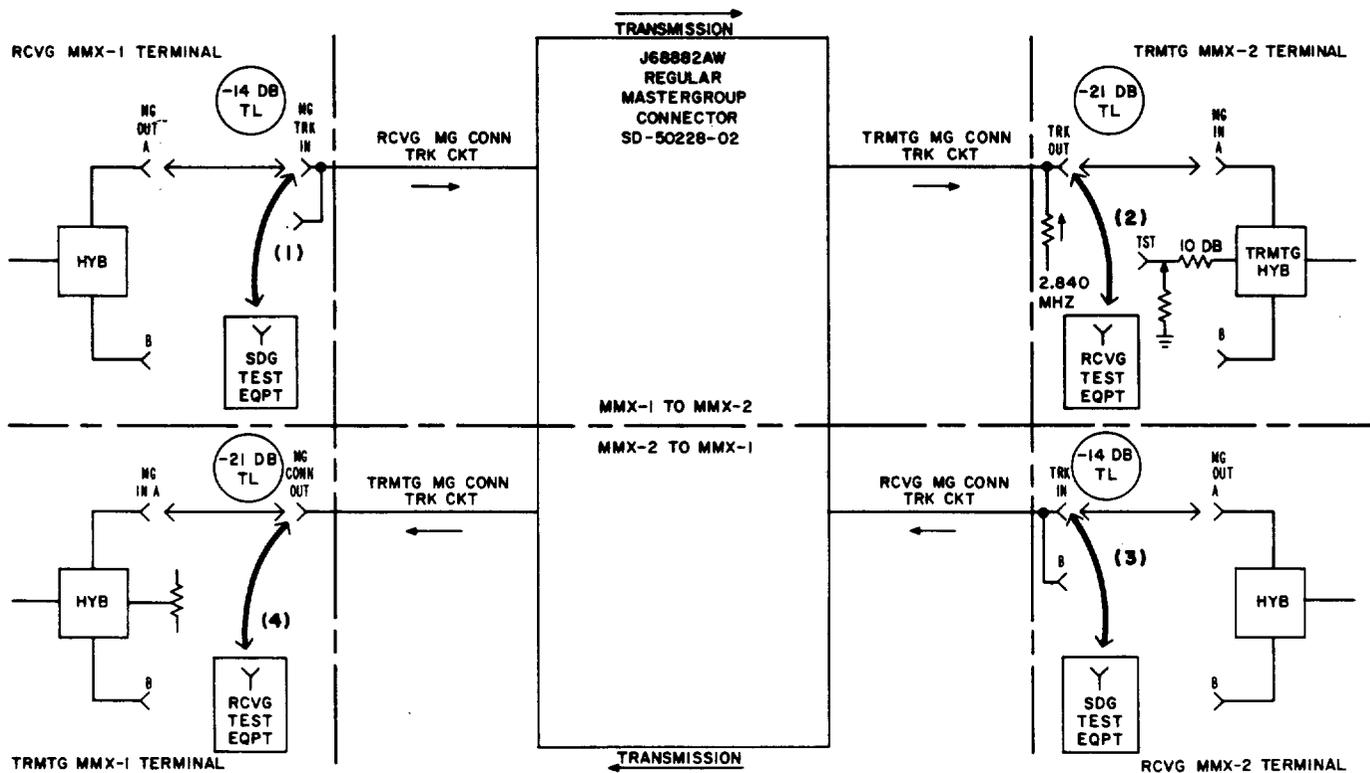

Fig. 2—Regular Mastergroup Connector Test Connections
<ul style="list-style-type: none"> (a) Check that the transmission path to be tested is out of service. (b) Locate the test jacks (Fig. 2) for the transmission path to be tested. (c) Locate the mastergroup connector and the controls in the transmission path to be tested.
1	Apply a 1.8-MHz test signal at -14 dBm to the MG TRK IN (TRK IN) jack in the MMX-1 (MMX-2) receiving bay [patch 1 (3), Fig. 2].
2	Measure the 1.8-MHz power at the TRK OUT (MG CONN OUT) jack in the MMX-2 (MMX-1) transmitting bay [patch 2 (4), Fig. 2].
<p>Note: In case of trouble, continue signal tracing in the mastergroup connector and the trunk circuits. ♦Test procedures for the mastergroup distribution frame are explained in Section 356-005-501.♦</p> <p>Slope Measurements</p> <p>At MMX receiving bay,</p> <p>8 Apply a 0.6-MHz test signal at -14 dBm to the MG TRK IN (TRK IN) jack [patch 1 (3), Fig. 2].</p> <p>At MMX transmitting bay,</p> <p>9 Measure and record the 0.6-MHz power at the TRK OUT (MG CONN OUT) jack [patch 2 (4), Fig. 2].</p> <p>10 Repeat Steps 8 and 9 for a 3.0-MHz test signal.</p> <p>Requirement: The 3.0-MHz signal power shall be within ± 0.4 dB of the 0.6-MHz signal power.</p> <p>11 Proceed to Part C of this chart to check the pilot elimination filter if the requirement is met. Otherwise, proceed to Part B of this chart to adjust the appropriate 210B cable equalizer in the mastergroup connector.</p> <p>B. Cable Equalizer Adjustments</p> <p>At mastergroup connector,</p> <p>Caution: Use care, both when opening and when closing the drawer, to avoid trouble.</p> <p>12 Set the cable equalizer screw switches, as indicated on the top line in Table A, to provide 0.0-dB slope correction.</p> <p>At MMX receiving bay,</p> <p>13 Apply a 3.0-MHz test signal at -14 dBm to the MG TRK IN (TRK IN) jack in the MMX-1 (MMX-2) receiving bay.</p> <p>At MMX transmitting bay,</p> <p>14 Measure and record the 3.0-MHz power at the TRK OUT (MG CONN OUT) jack in the MMX-2 (MMX-1) transmitting bay.</p> <p>15 Repeat Steps 13 and 14 for a 0.6-MHz test signal.</p>
23	Measure and record the power of these pilot signals at the TRK OUT jack [patch (2), Fig. 2].
25	Apply a test signal at each of the appropriate pilot frequencies at -10 dBm to the MG TRK IN jack [patch (1), Fig. 2].
26	Measure and record the power at the TRK OUT jack [patch (2), Fig. 2].
31	Measure and record the power of the 2.840-MHz pilot at the MG CONN OUT jack [patch (4), Fig. 2].
33	Apply a 2.840-MHz test signal at -10 dBm to the TRK IN jack of the mastergroup connector under test [patch (3), Fig. 2].
34	Measure the power of the 2.840-MHz signal at the MG CONN OUT jack [patch (4), Fig. 2].